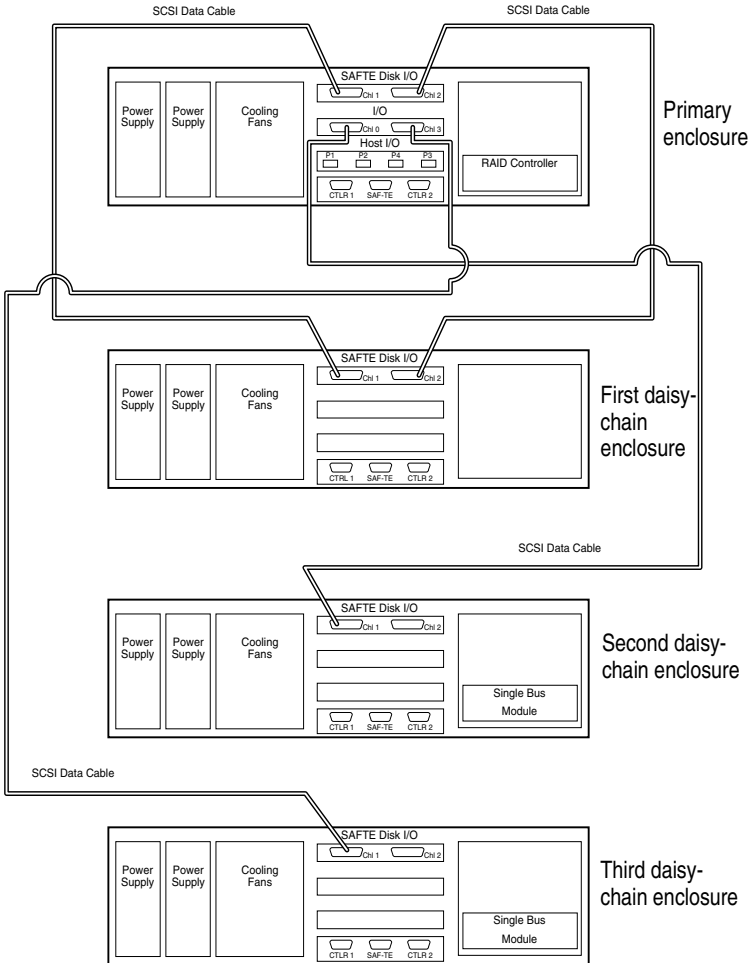

Figure C-21 Enclosure Cabling Diagram
- 11** Connect the SCSI data cables as shown in Figure C-21.